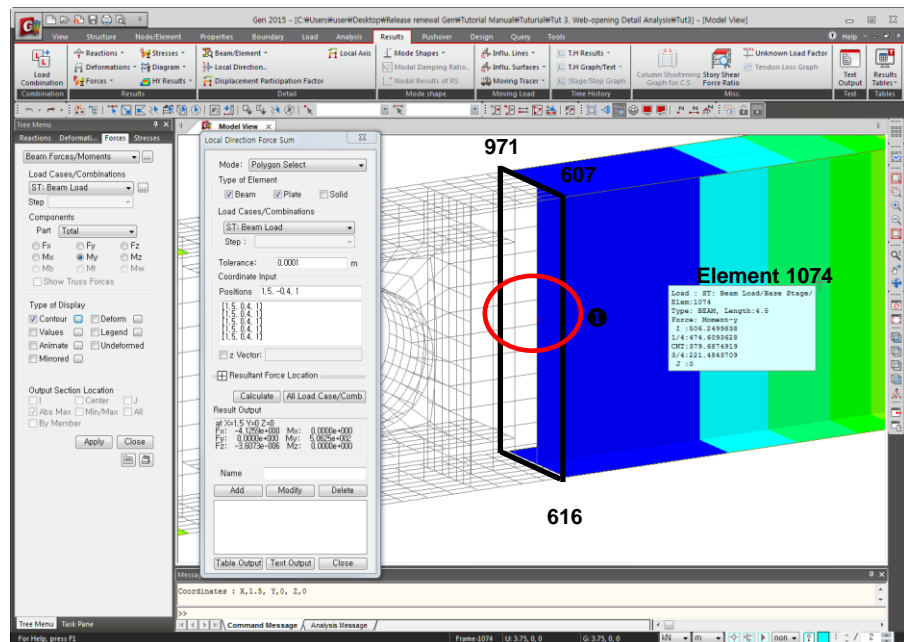

Figure 3.22 Local Force Sum
3. Click  *Zoom Window* in the Icon Menu to magnify the boundary of the detail model and the right side line element (Fig. 3.22).
7. Select *Plate Edge Polygon Select* in *Mode*.^④
10. Click nodes **980, 971, 607, 616, 980** successively as shown in Fig.3.22.
The sum of all the nodal forces, contained in the specified section, is computed at the centroid of the section according to the local coordinates (Fig. 3.22–^①) defined on the section for which element forces are to be computed. The computed value of the strong axis bending moment, M_y , for the member at the right end of the detail model is 506.25 kN·m.